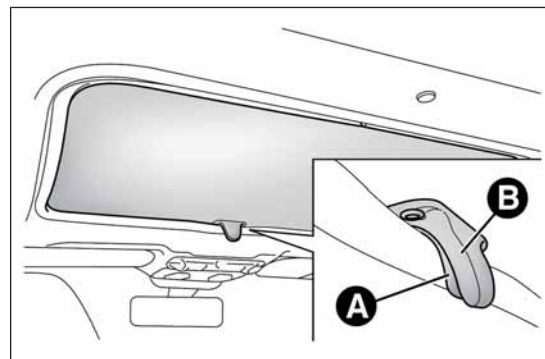

fig. 55
**Opening the blind:** press button A fig. 55 to release the blind and then grip handle B in order to slide it backwards.
**Closing the blind:** grip handle B fig. 55 and slide the blind forwards, making sure that it clicks into place.